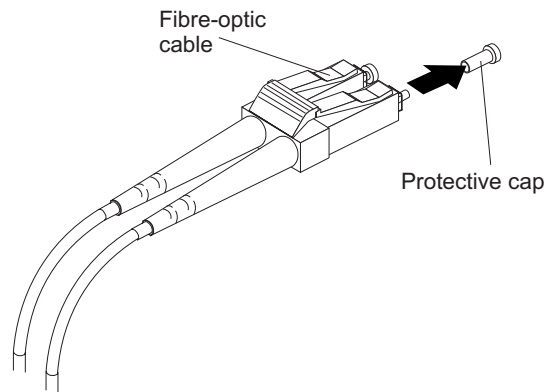

Figure 30. Removing fiber-optic cable protective caps
3. Remove the two protective caps from one end of the LC-LC cable, as shown in Figure 30 on page 51. Save the protective caps for future use.